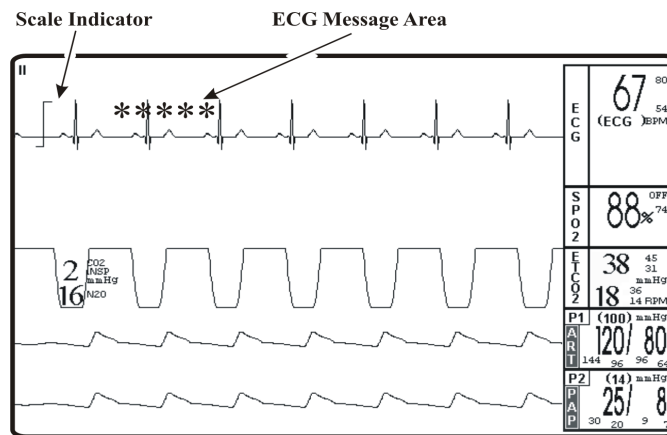

Figure 1-7. The Middle Screen Vital Signs Trace Display
1.3.2 Vital Signs Trace Display. (See **Figure 1-7**) The Vital Signs Trace Display is located in the middle of the Display Screen. This Display provides the operator with a trace of the selected parameters and also contains Numerical Vital Sign indications for the selected patient parameter.